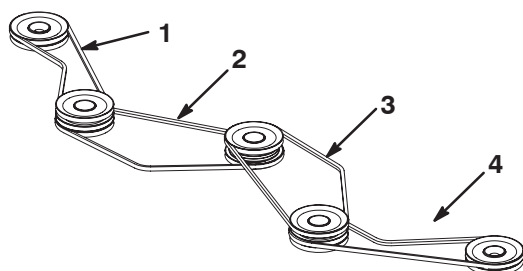

Figure 72
7. Replace belt(s) as required. Install on pulleys as shown in figure 72.